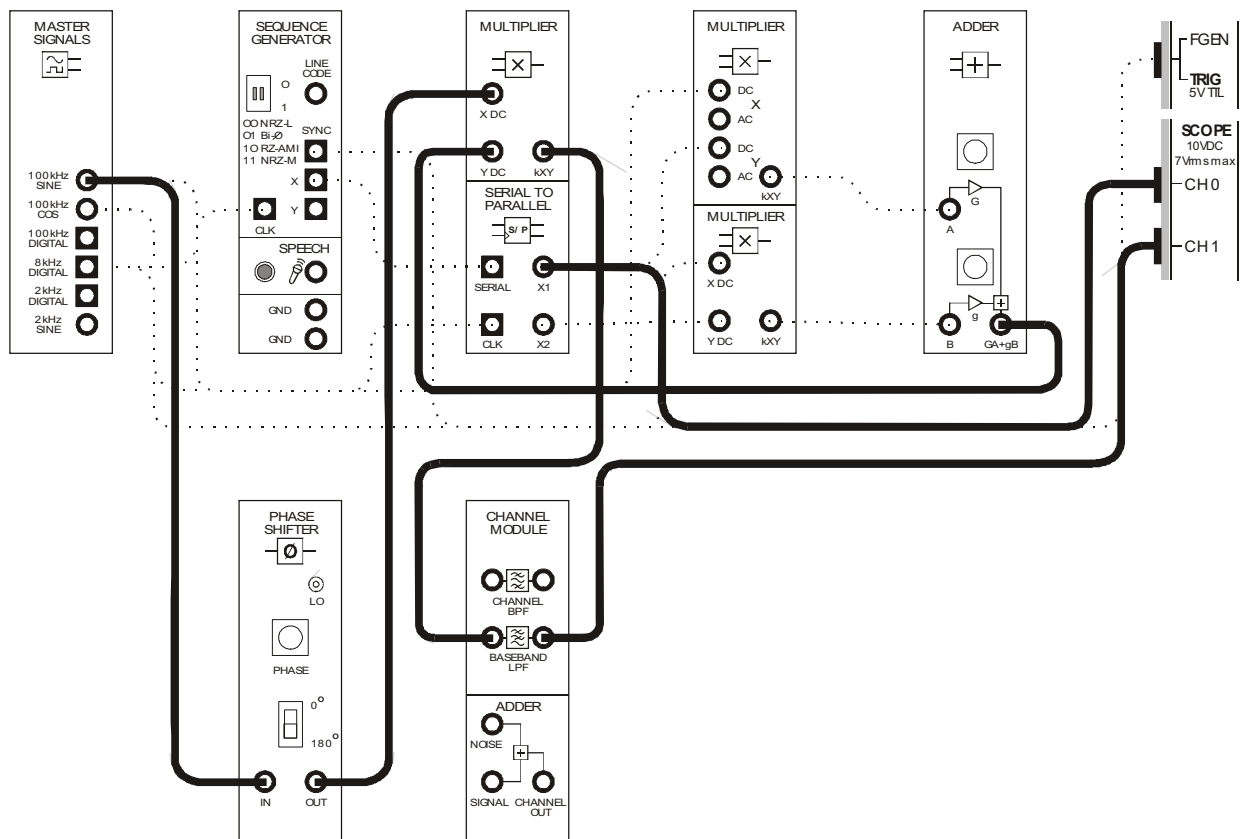
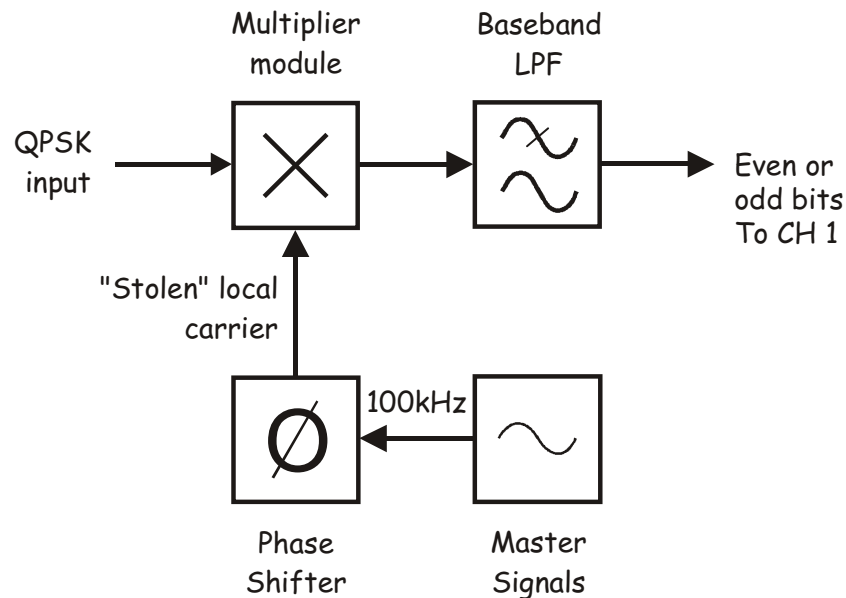

Figure 11
Figure 12
44. Modify the set-up as shown in Figure 11 below.
The additions to the set-up in Figure 11 can be represented by the block diagram in Figure 12 below. If you compare the block diagram to Figure 2 in the preliminary discussion, you'll notice that it implements most of one arm of a QPSK demodulator (either I or Q).